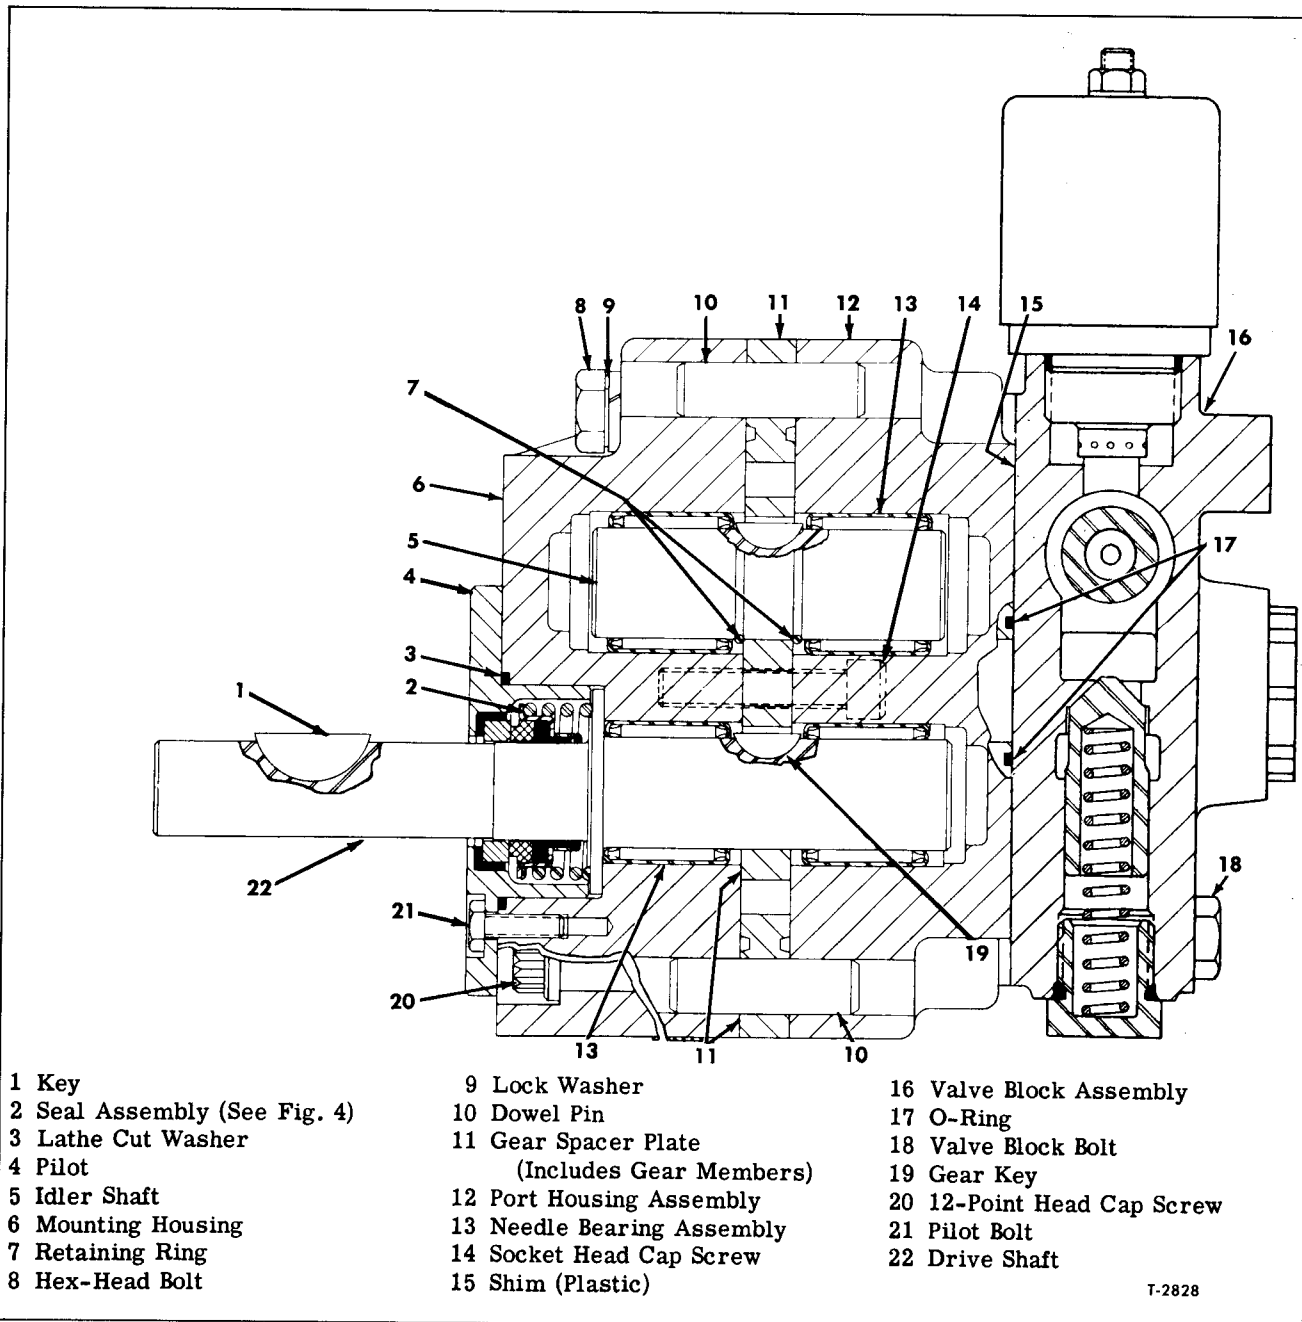

Figure 20—Sectional View of Fan Drive Motor
Key numbers in text refer to figure 20, unless otherwise indicated.
1. If new shaft bearings (13) are being installed, use suitable installer to press new bearings into housing bores. Bearings must be located as shown in figure 20, i.e., far enough into bore so that when motor is assembled, the retaining rings (7) on idler shaft (5) and gear keys (19) will not contact bearing housings.
2. Lubricate drive shaft surfaces with light engine oil, then insert drive shaft (22) through bearing in mounting housing assembly (6), and install gear key (19) in keyway.
3. If gear has been removed from idler shaft (5), install gear key in keyway and install one re-
Key numbers refer to figure 20.